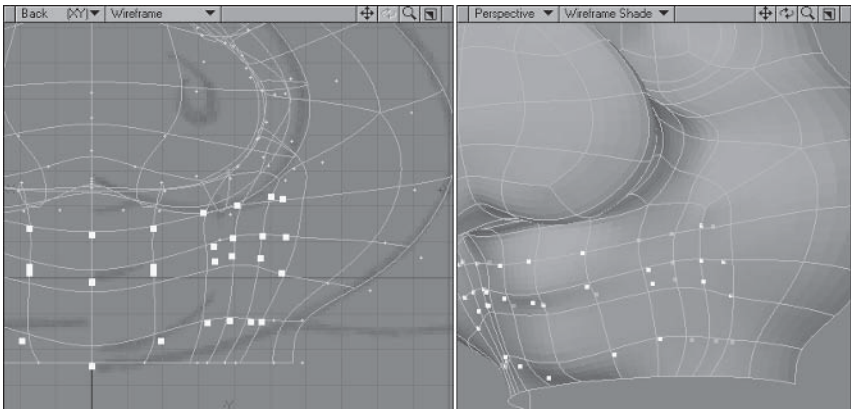

Figure 5.3-30. Creating neat polygon flow while sculpting the area.
- 8. Go back to **Points** mode and, with the points still selected from step 6, adjust them horizontally from the Back view to match Figure 5.3-30.